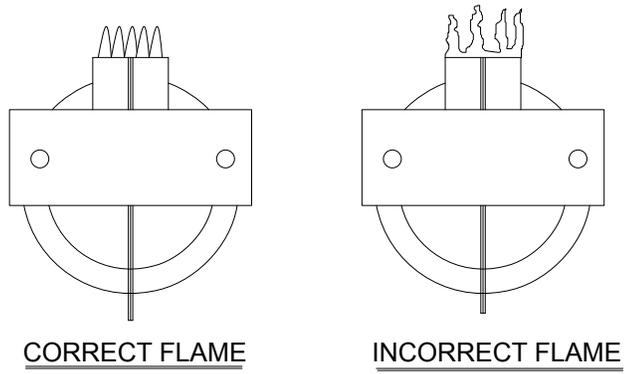

Figure 8
3. Periodically observe the main burner flame to assure it is burning with a hard blue flame with well defined burner ports. (See Figure 8). If flame appears yellow or burner has a lazy flame, shut furnace down. It is possible that burner needs cleaning or replaced. To inspect the main burner, remove the four (4) screws (A, B, C and D) securing the burner access door to the combustion chamber (See Figure 6). If excessive rust and corrosion are present on burners surface, the burner must be thoroughly cleaned or replaced. The burner may be cleaned using a steel wire brush and blown clean using high compression air. Contact a qualified service person for assistance.